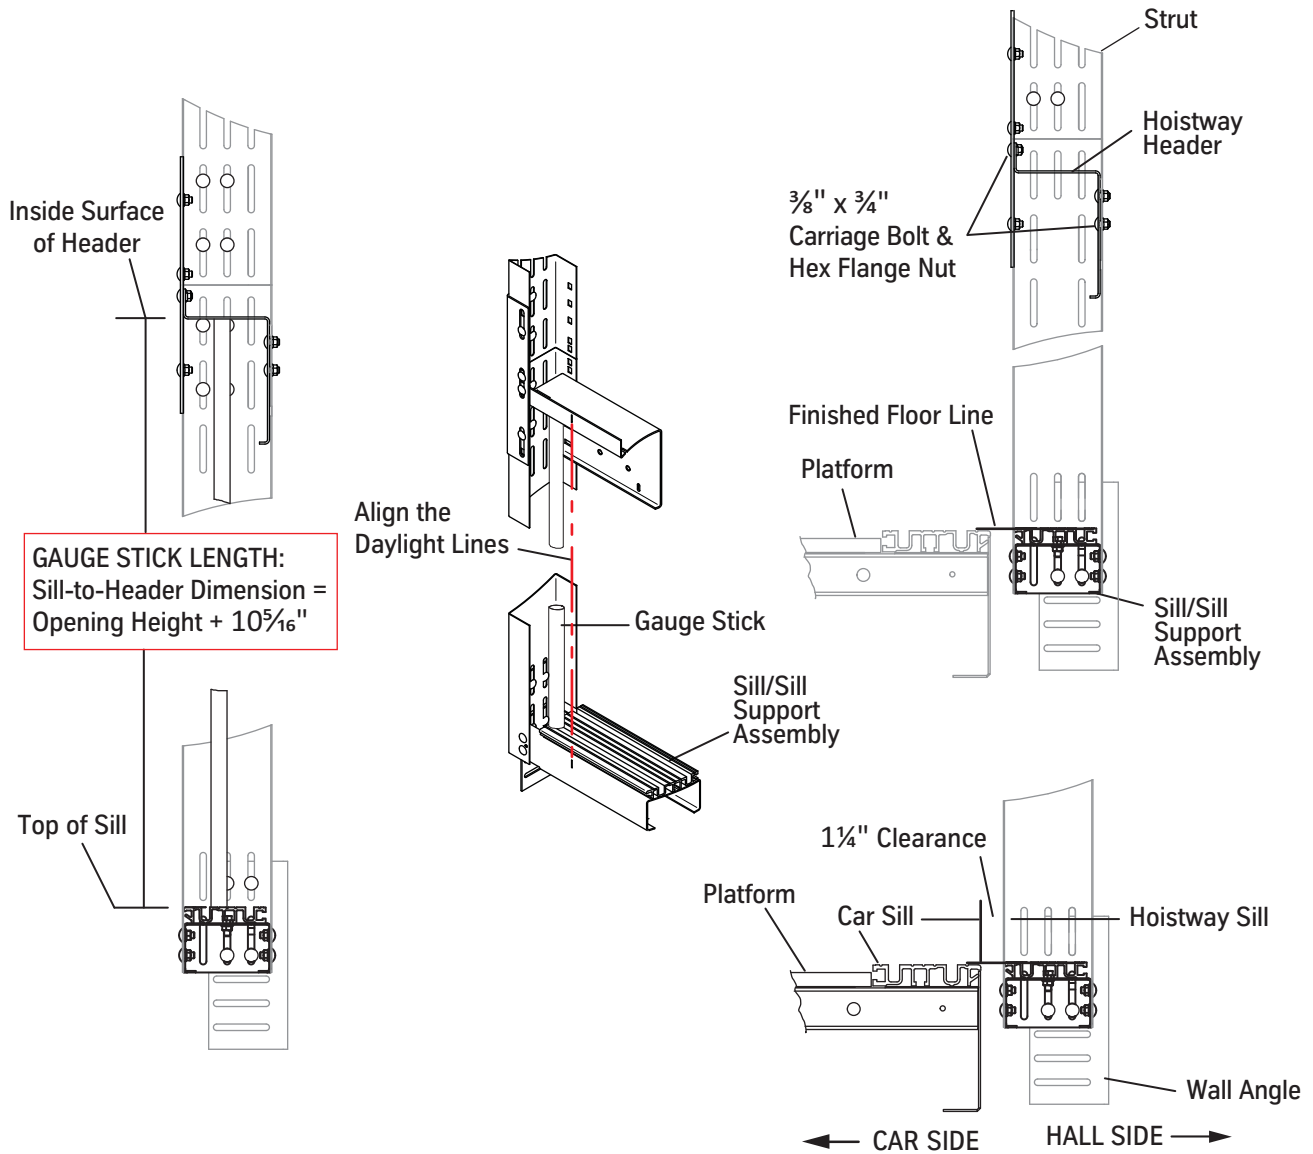

Figure 30 - Install and Adjust the Hoistway Header
2. Place the gauge sticks on the sill of the landing below, one at each end of the sill. See Figure 30 on page 48 for all steps on this page.